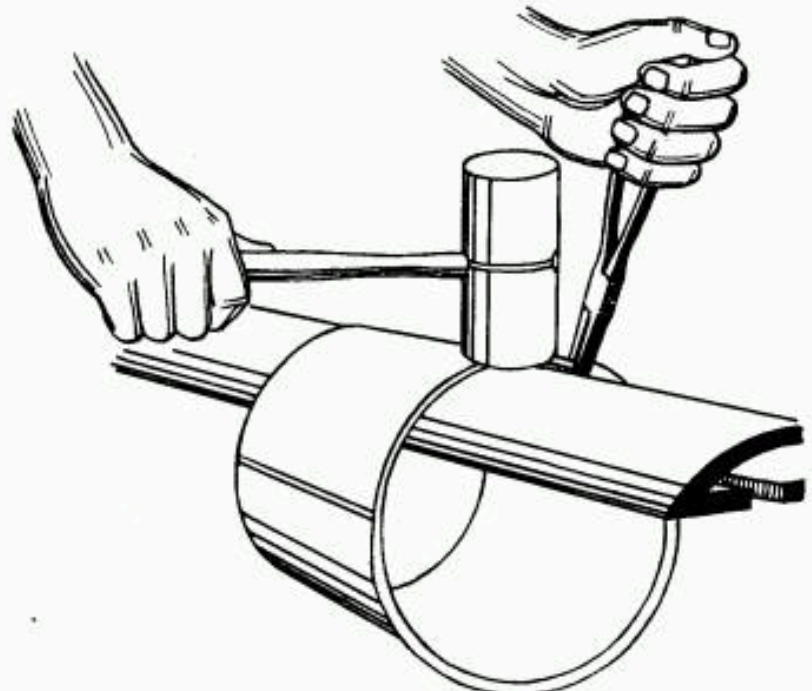

FIG. 17 STARTING THE WIRED EDGE
5. Start the metal over the wire with a mallet and a pair of pliers. (Fig. 17).